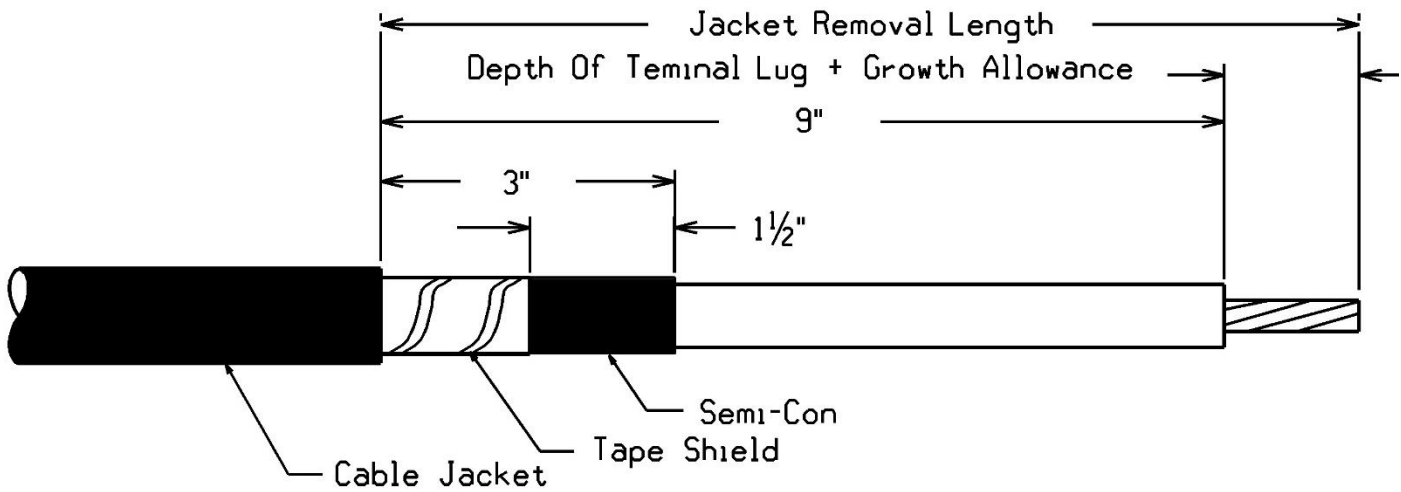

Figure 19
2. Prepare cable using dimensions shown in Figure 19. Be sure to allow for the depth of the terminal lug and growth of Aluminum Lug (if used – see chart below). If necessary to prevent tape shield from unraveling, TEMPORARILY hold down the edge with a single wrap of vinyl electrical tape.